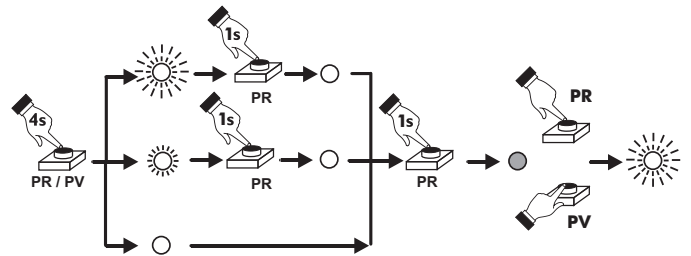

Fig. 5
4E - Relay RR (RV) timing settings - Fig. 5